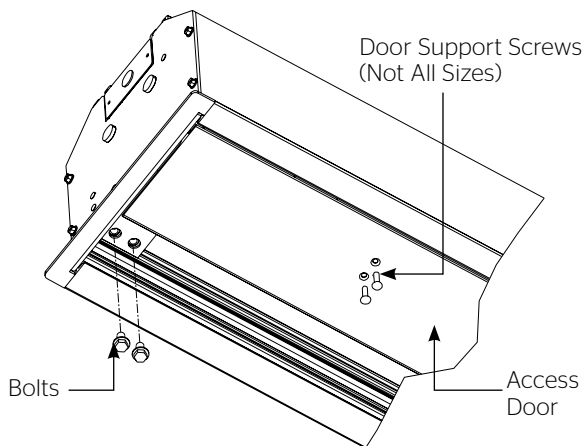

Figure 1
1. Remove four bolts from ends of door assembly (2 bolts on each end) (Fig. 1). This will allow the door assembly to drop open for access to case. For larger sizes, you will also need to remove the door support screws.
11. Close door assembly and replace four bolts at ends of door (2 bolts on each end) (Fig. 1).